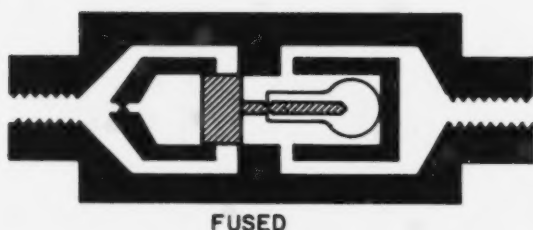

Figure 5-17. Type II—fused condition.
simplified illustration of a Type II fuse in the flow position. The fluid enters the inlet port (F). There it splits, flowing along the side passages and on out to exit port. While this is going on, some of the fluid entering the inlet port (F) goes through the small orifice (E). This fluid slowly pushes the piston (D) to the right. If more fluid flows than is normally required for one actuation, the piston will have moved all the way to the right until it blocks the holes drilled through the outer passages. Now fluid flow from the exit port (A) stops. Notice that the piston has a stop rod (C) attached to it. Also notice that it has a groove for the lock spring (B) to slide into. When the fuse is in this fused position (see fig. 5-17), the lock spring will hold the piston even if you drop pressure off the complete system. The only way to reset this type of fuse is to force fluid into the outlet port. The fluid pressure entering through the exit port (A) will apply enough pressure to the piston to release the lock spring and move the piston back to the static position.